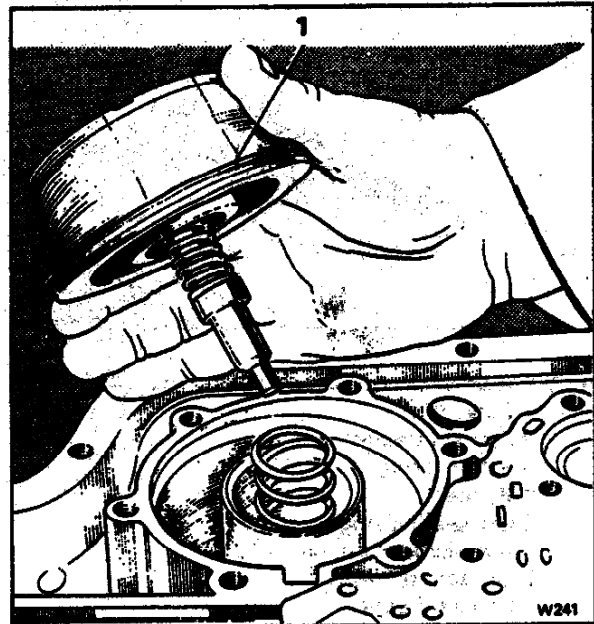

Fig. T67 Removing the rear servo
5. Remove the servo unit from the casing (see Fig. T67).